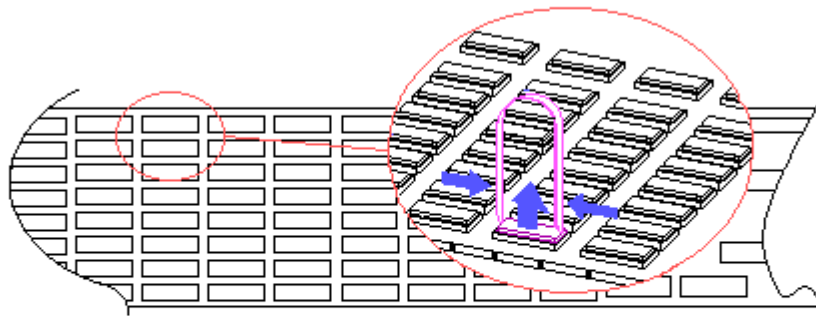

Figure 7.10-6. Removing a Defective Memory Chip
2. Using the special IC removal tool, remove the defective memory or ROM chip(s) (Figure 7.10-6).